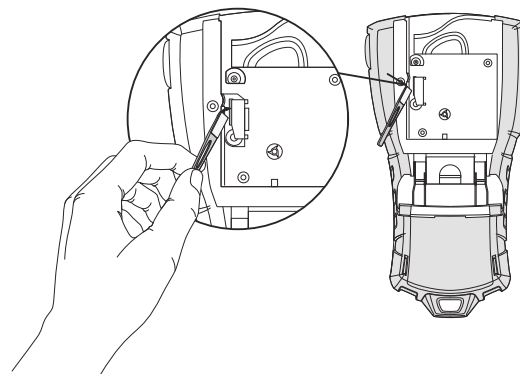

Figure 7
3. Gently wipe the padded side of the tool across the print head. See Figure 7.